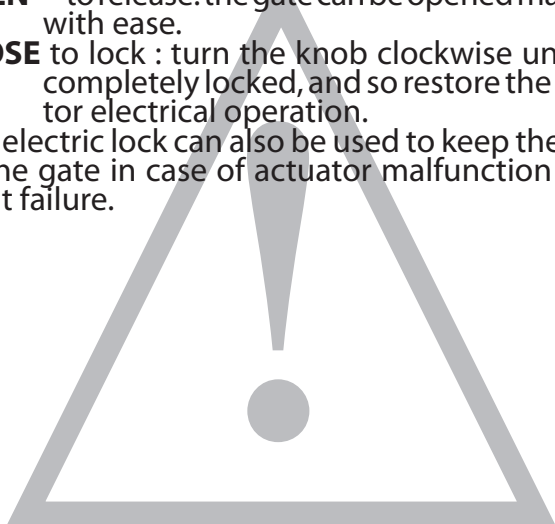

Fig. 1
In case of emergency, for example when the electrical power is disconnected, open the electric lock by means of the appropriate key to release the gate, and open the leaf manually; you may also reach the release knob to facilitate the manoeuvre. In order to get access to the release knob, move the small cap in the direction indicated by the arrow (fig.1) to reveal the lock, insert the key, turn it clockwise by 90° and lift the entire release cover by pulling with the key. The knob must be allowed to turn as far as possible in the direction indicated by the arrows.
**3) MAIN AUTOMATION PARTS (Fig.1)**